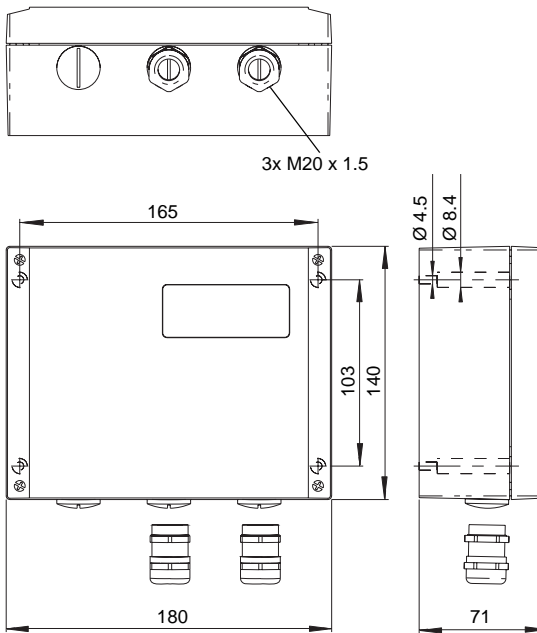
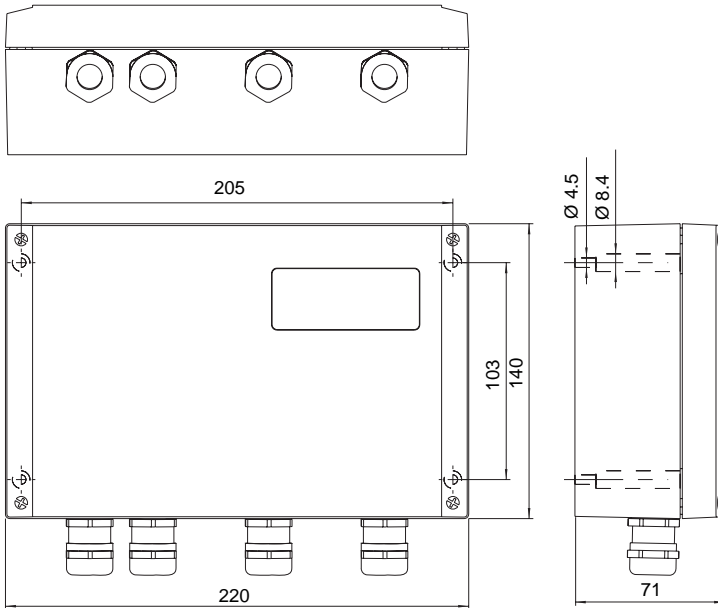

Fig. 5.1: Dimensions of Sonalok 7S 51 Series (in mm)
Fig. 5.2: Dimensions of Sonalok 7S 52 Series (in mm)
- Drill four holes in the wall at the selected location (see Fig. 5.1 or Fig. 5.2).